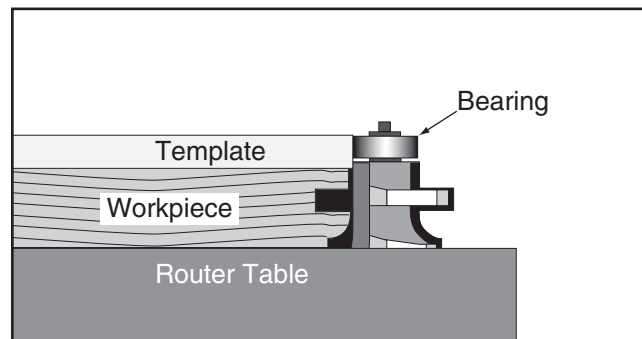

Figure 37. Using a template and a bearing for free-hand routing.
6. Install a router bit with a bearing as directed by the router manufacturer's instructions, then raise it to the desired height (see **Figure 37**).